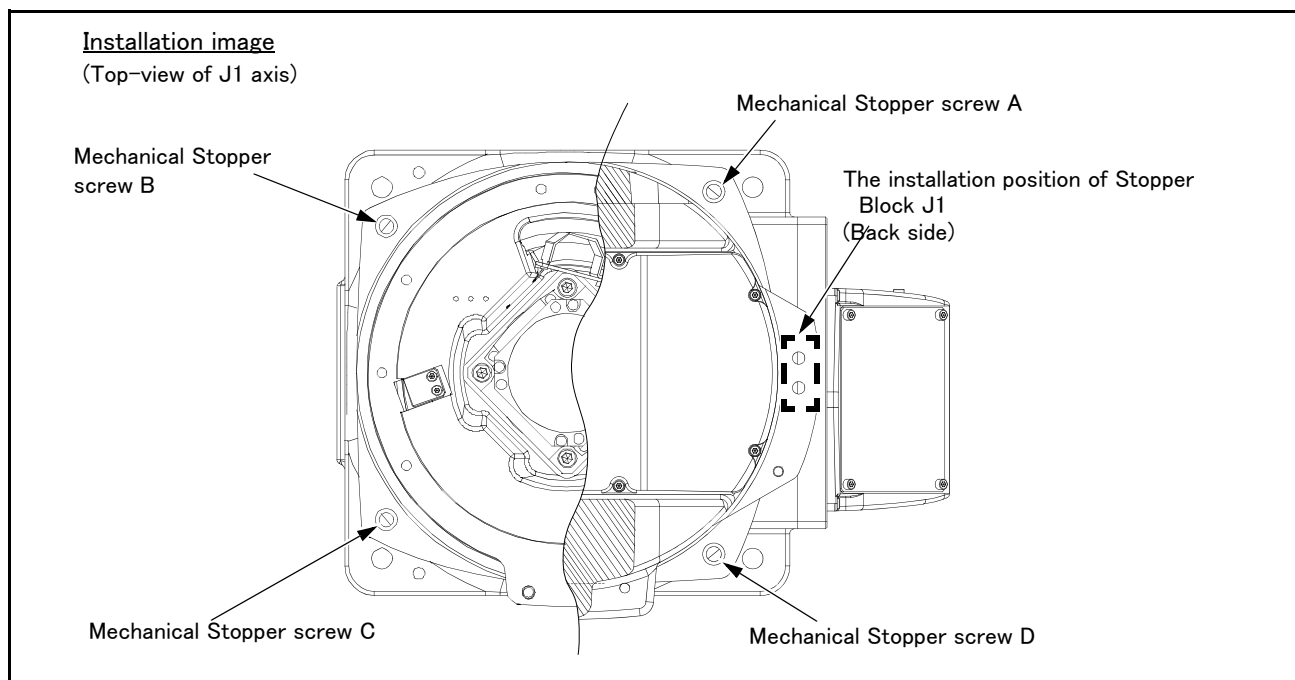

Fig.3-4 : Installation image of J1axis operating range change option (RV-13FR series)
Note1)Symbol: “(A)” – “(D)” in the Table 3-11 is related with the symbol of “Fig. 3-4: Installation image of J1axis operating range change option (RV-13FR series)”.
- 4) Install the <3> Mechanical Stopper screw. Install the <3> attached Mechanical Stopper screw to the needed point with referring to Table 3-11 and Fig. 3-4.